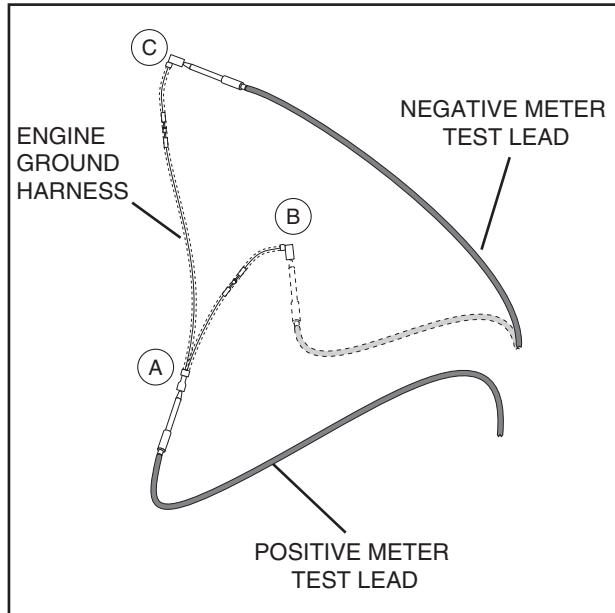

Figure 7-40. – Engine Ground Harness Test Points
- Connect the positive (+) test lead to Connector “A” (as shown in Figure 7-40). Connect the negative (-) test lead to Connector “B.”
- Now repeat Steps 14a through 14c with the negative meter test lead connected to Connector “C” (Figure 7-40).